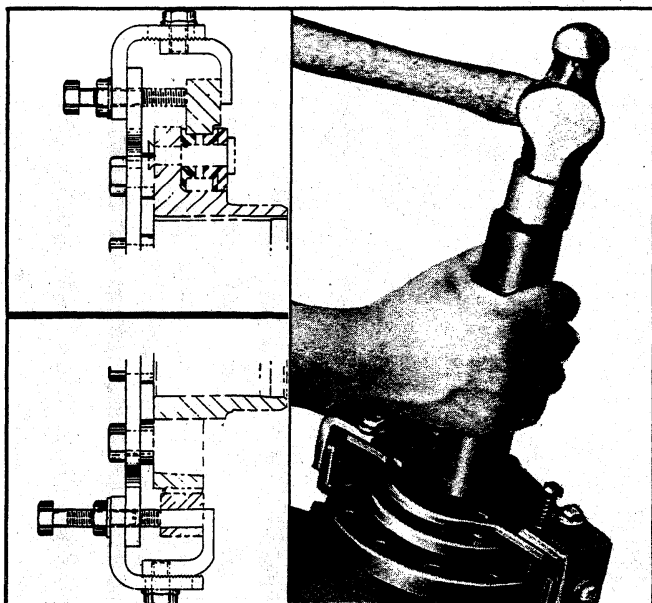

Fig. 13V - Installing Torsional Damper (283, 327 and 350)
2. Attach damper installer Tool J-22197 to damper. Tighten fingers of tool to prevent weight from moving (fig. 13V).
3. Position damper on crankshaft and drive into position until it bottoms against crankshaft sprocket (fig. 13V). Remove installer tool.